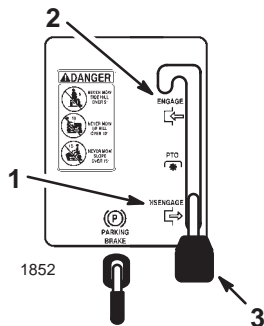

Figure 6
3. Move the PTO to Disengaged (Fig. 6).